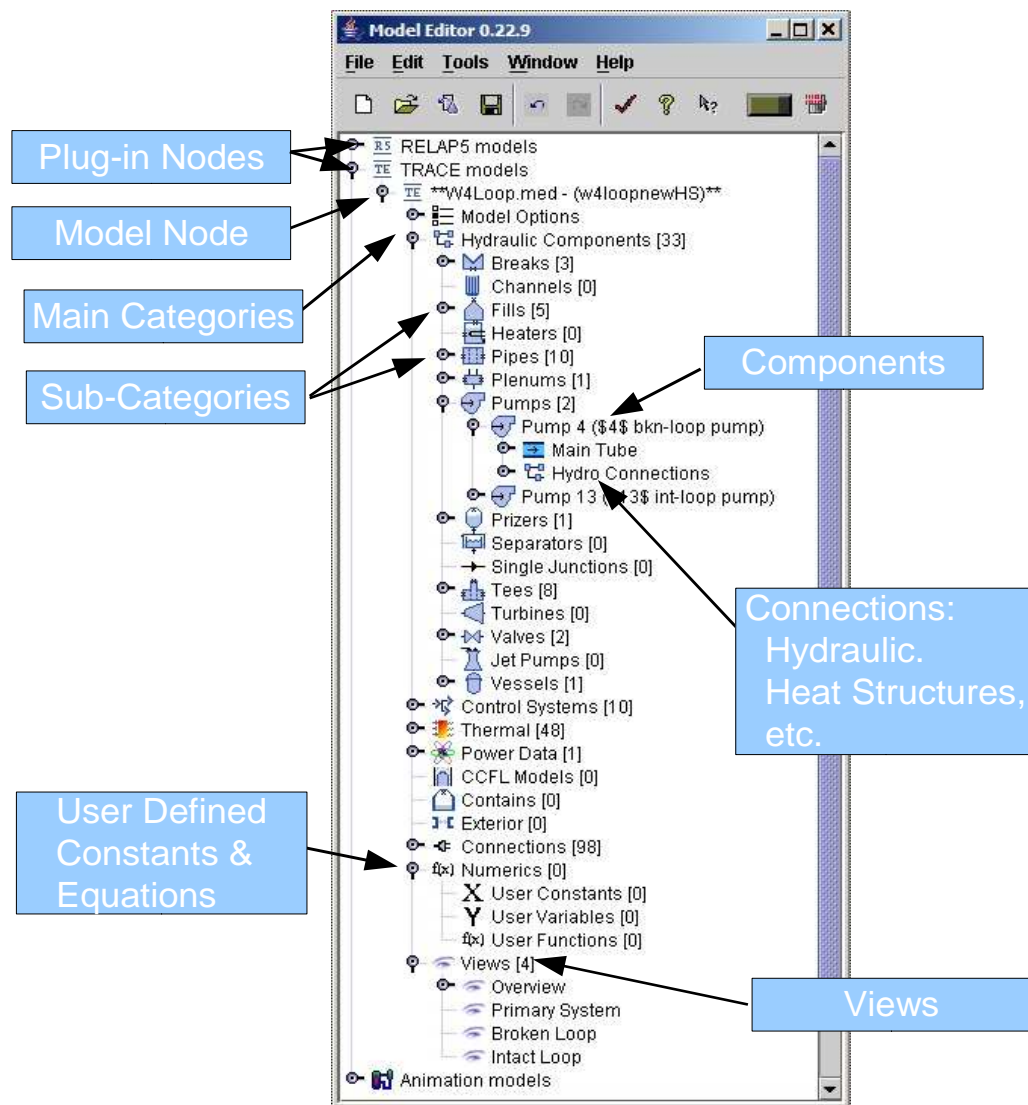

Figure 3. Component Navigator
The navigator provides a logical hierarchical representation of the model's components and views as illustrated in Figure 3. The root of this tree is the Plug-in node. Any model that is currently open will appear underneath the appropriate plug in node. In Figure 3, note that the node labeled W4Loop.med – (w4loopnewHS) appears directly under the node labeled TRACE models. This indicates that only one TRACE model is open, and that model is named w4loopnewHS, and was opened from the MED file W4Loop.med.
- The number of components of that contained within a category or sub-category is displayed in brackets following the node name. Notice in Figure 3 that there are 33 hydraulic components, and two of those components are pumps.